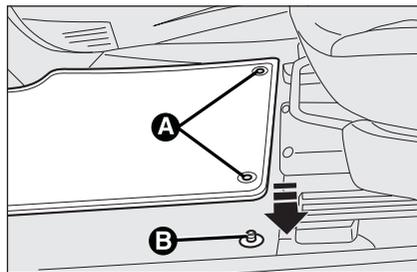

fig. 10
- position the mat so that the eyelets **A**-fig. 10 correspond to the restraint systems **B** installed on the floor;